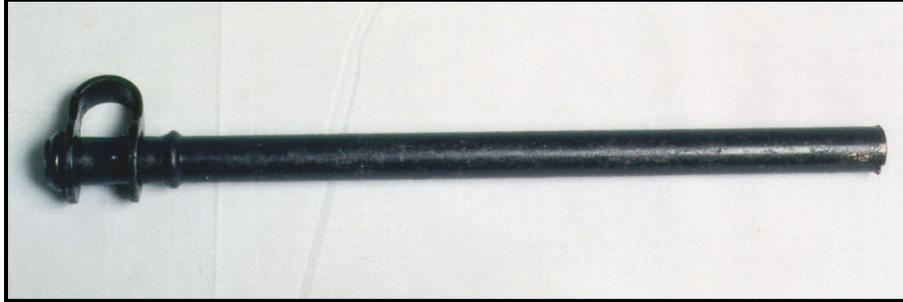

Figure 3-27. Ice piton.
e. **Ice Pitons.** Ice pitons are used to establish anchor points for climbers and equipment when conducting operations on ice. They are made of steel or steel alloys (chrome-molybdenum), and are available in various lengths and diameters (Figure 3-27). They are tubular with a hollow core and are hammered into ice with an ice hammer. The eye is